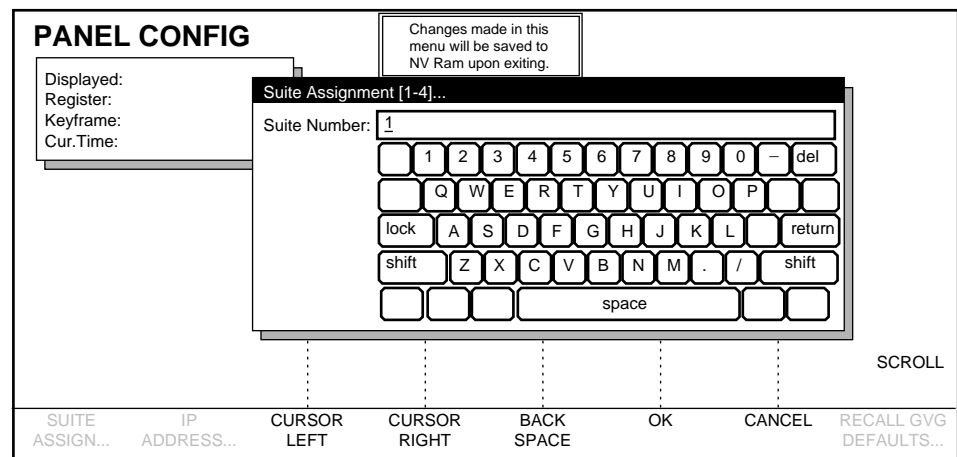

Figure 3-5. Panel Configuration Menu, Suite Assignment
2. At the Panel Configuration menu, press SUITE ASSIGN... . A Suite Assignment menu appears (Figure 3-5). Use the SCROLL soft knob to select the suite you wish to assign to the Control Panel, then press OK.